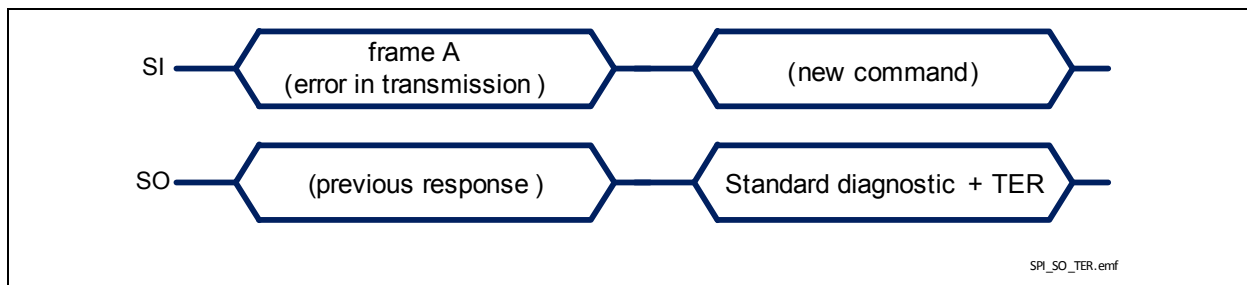

Figure 32 BTS54220-LBE response after an error in transmission
- in case an error in transmission happened during the previous frame (for instance, the clock pulses were not multiple of 8), shown in **Figure 32**